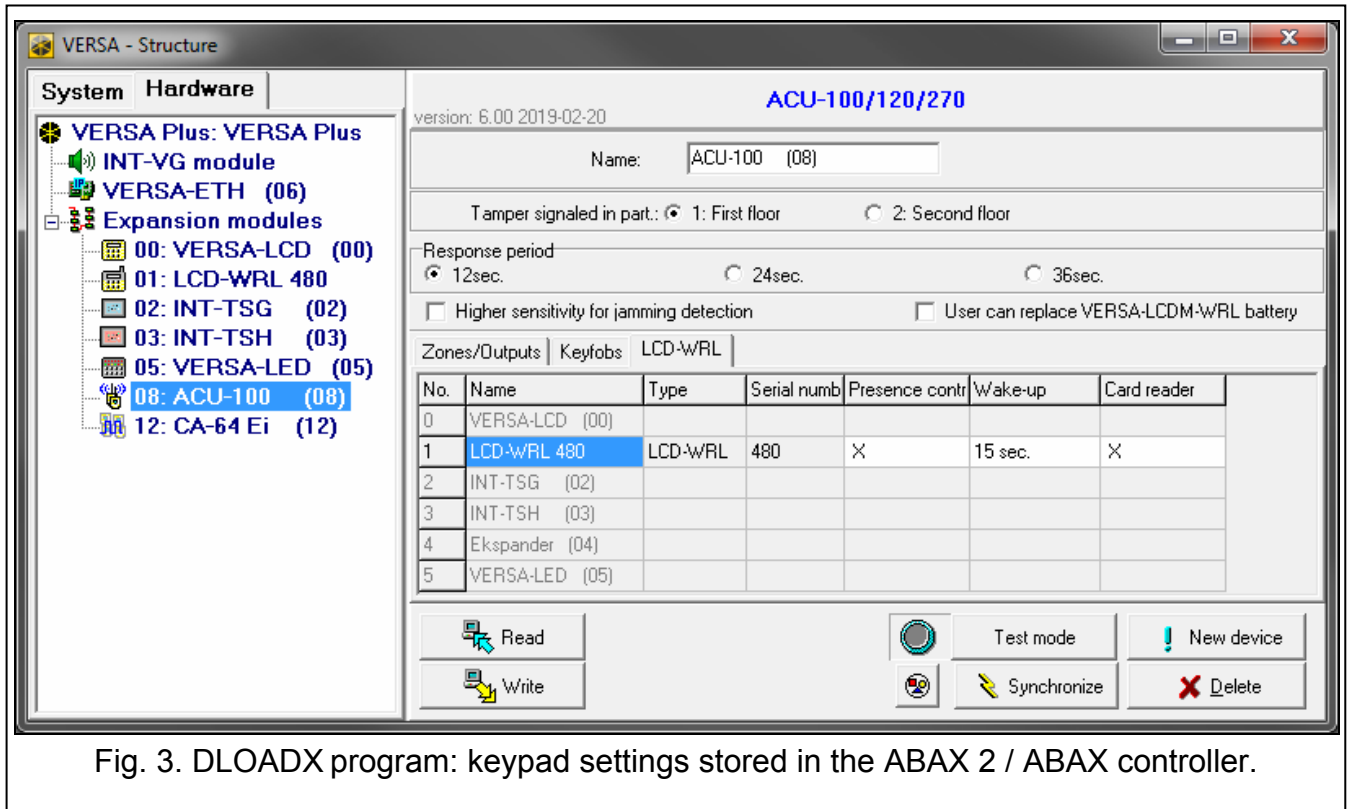

Fig. 3. DLOADX program: keypad settings stored in the ABAX 2 / ABAX controller.
You can add wireless keypads in the “VERSA – Structure” window, “Hardware” tab, after clicking on the name of ABAX 2 / ABAX controller on the list of devices, and then on the “LCD-WRL” tab (see: Fig. 3 p. 7).
You can remove the wireless keypads in the “VERSA – Structure” window, “Hardware” tab, after clicking on the name of ABAX 2 / ABAX controller on the list of devices, and then on the “LCD-WRL” tab (see: Fig. 3 p. 7).
- DLOADX program: →“VERSA – Structure” window →“Hardware” tab →“Expansion modules” branch →*[controller name]* →“LCD-WRL” tab (see: Fig. 3),